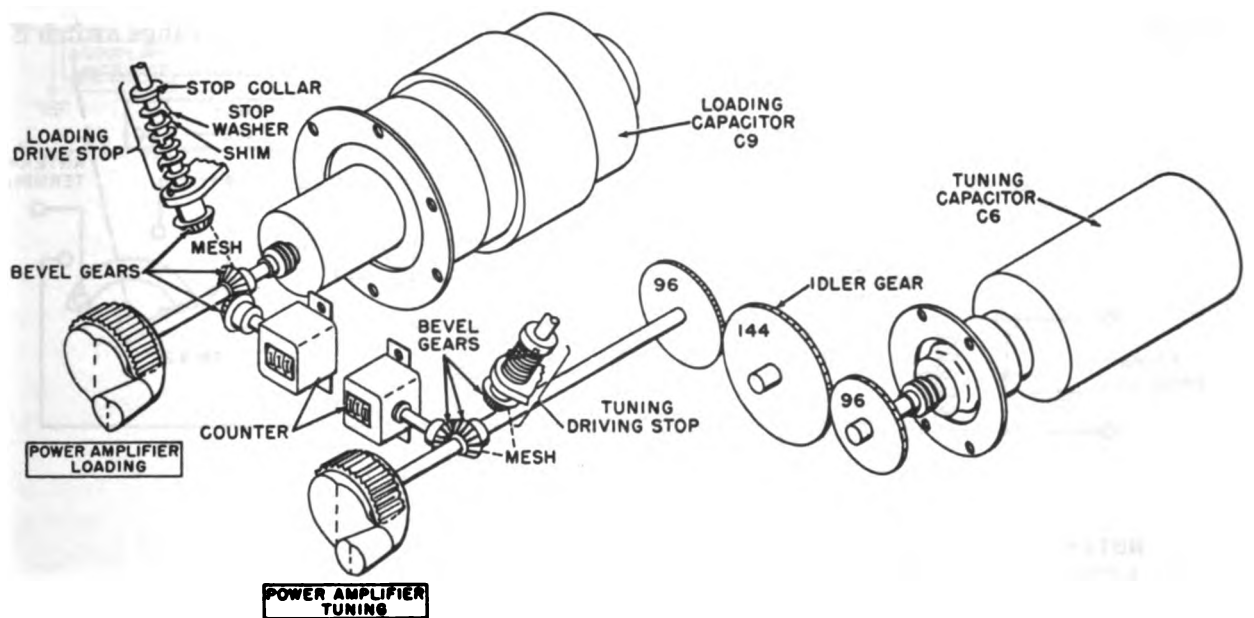

Figure 32. Power amplifier tuning drive mechanism, functional diagram.
21. Power Amplifier Tuning Drive Mechanism (fig. 32)